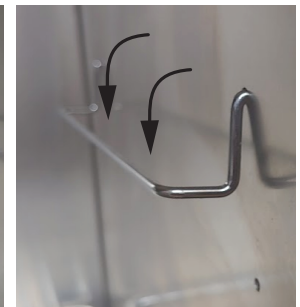

FIG. 3
- Insert shelf bracket ends into the hole and press down on the bracket as shown in (FIG. 3). Repeat process on the opposite side of the wall.